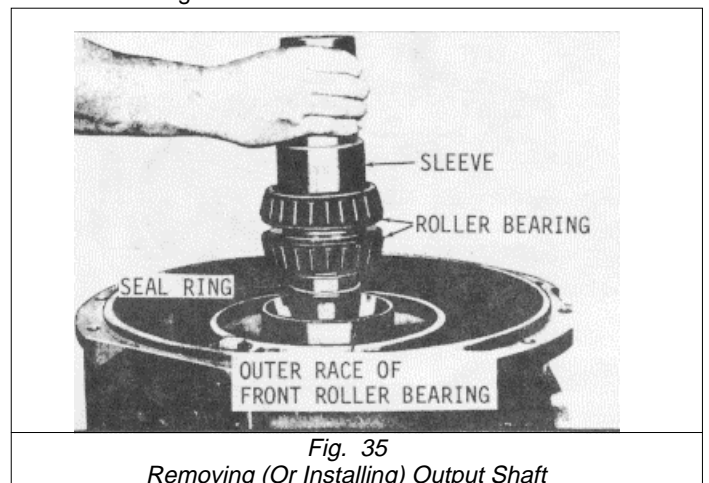

Fig. 35
- (1) Position the converter housing assembly, rear end up, on the assembly table (Fig. 35).
- (2) Install the outer race of the front roller bearing, with the thick end down, so that it rests against the end of the ground sleeve (Fig. 35).
- (3) Install the output shaft so that the front roller bearing engages with its outer race (Fig. 35).
- (4) Install the bearing retainer housing gasket, making sure that any oil drain holes in the bearing housing align with the holes in the converter housing.
- (5) Secure the bearing retainer housing with six 1/2-13 x 1-7/8 inch bolts and lock washers. Tighten bolts to 67-80 ft/lb. (91-108 N.m) torque.
- (6) If the outer race of the rear roller bearing was removed, install it, thin edge down, in bearing retainer housing.